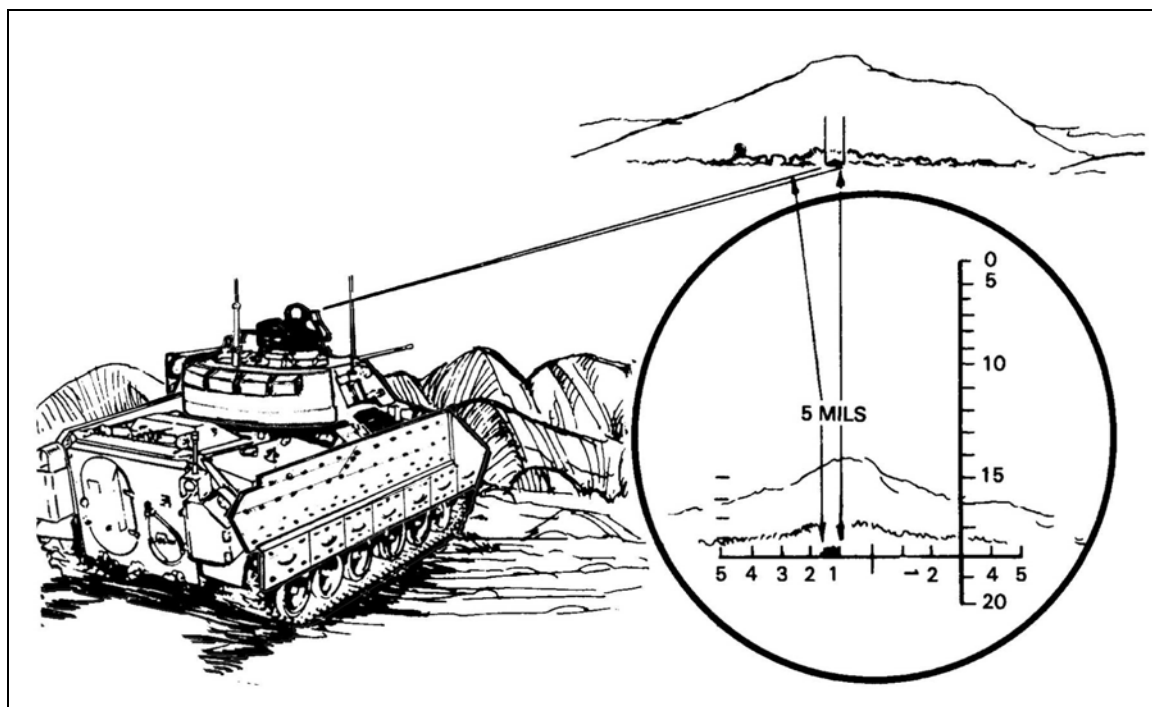

Figure 6-10. Range determination using binoculars.
(d) Since the relationship between target width in mils and meters (W) remains constant at varying distances, the BC can use them to determine range accurately (Figure 6-10, page 6-14). The mil relation holds true whether the W factor is width, height, or length. Therefore, the BC can determine range if he knows the dimensions of the target.